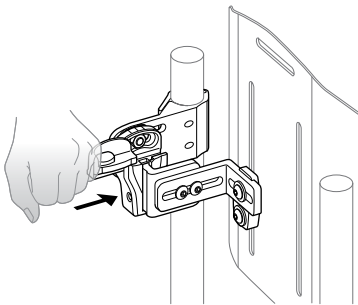

Fig. 16
4. Slide the left and right Slide Caps closed, towards the shell. *Fig. 16*